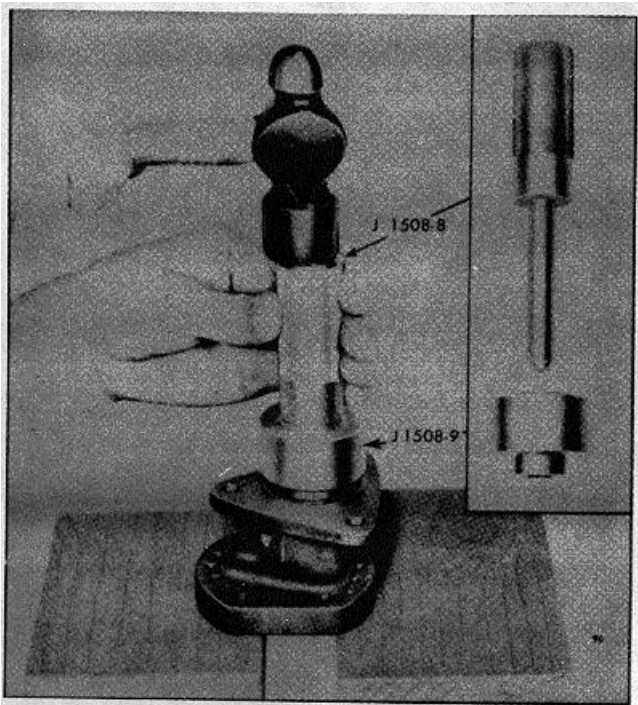

Fig. 7. Installing Outer Oil Seal
- c. Place the shorter end of the adaptor J 1508-9 over the pilot and against the shoulder of the installer handle. Place the outer oil seal on the pilot of the installer handle with the lip of the seal facing the adaptor. Then, insert the pilot of the installer handle into the pump body and drive the seal in (Fig. 7) until the shoulder of the adaptor contacts the pump body. Thus the oil seals will be positioned so that the space between them will correspond with the drain holes located in the bottom of the pump body.